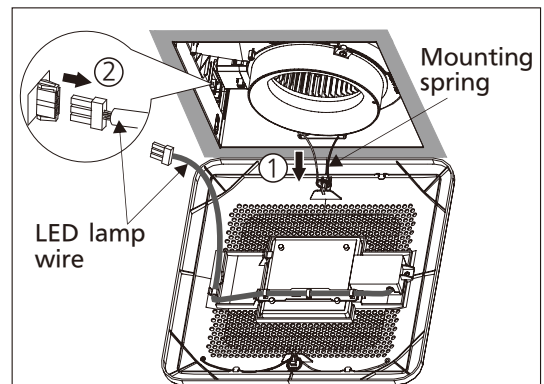

Fig.16
3.Remove the other mounting spring. (Fig.16 ①)
4.Take the LED lamp wire out to remove the grille. (Fig.16 ②)
5.Remove dust and dirt from fan body using a vacuum cleaner. (Fig.16)
6.Using a cloth dampened with kitchen detergent remove any dirt from fan body. Wipe dry with clean cloth. (Fig.16)